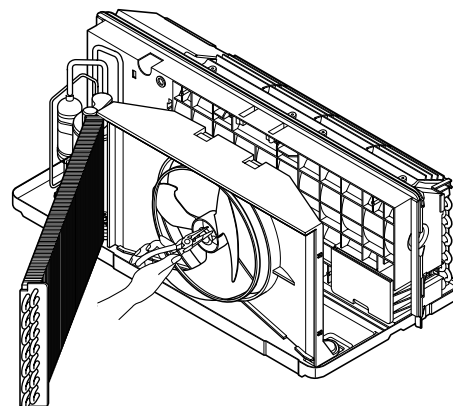

Figure 12
4. Remove the clamp which secures the fan with pliers. (See Figure 12)